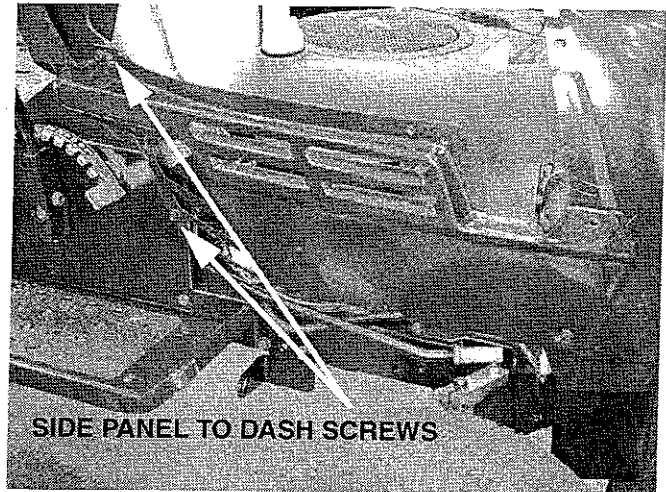

FIGURE 5
12. UNITS WITH ENGINE SIDE PANELS - Using a 3/8" socket, remove the four (4) (two on each side of the unit) self-tapping screws securing the rear of each side panel to the dash panel and frame. See Figure 5.